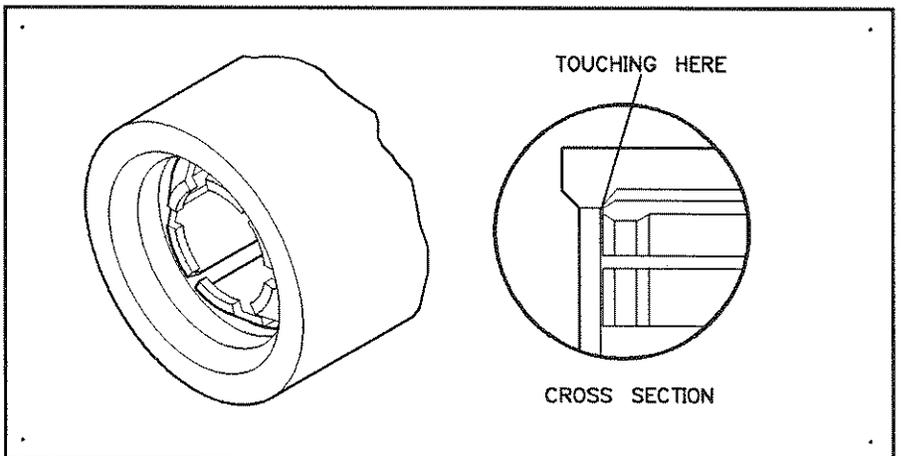

Figure A-18. Inspecting the Installation
6. Under magnification, visually inspect the assembly and make sure the inner contact is properly installed (see Figure A-18).